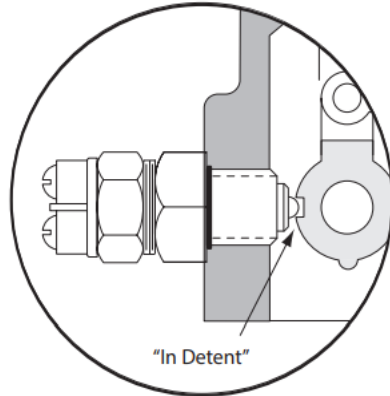
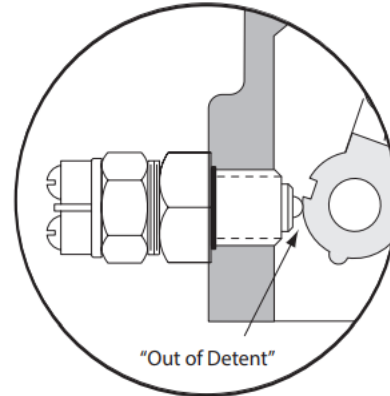

Figure 3-1
Figure 3-2
- **(a).** First apply a high temperature water resistant grease to the threads. Screw the switch in slowly, while moving the hydraulic control arm back and forth, until “detent” action is detected in the arm movement. See Figure 3-1. Back out the switch until the “detent” action is very slight. Then position the arm out of the detent position. See Figure 3-2.